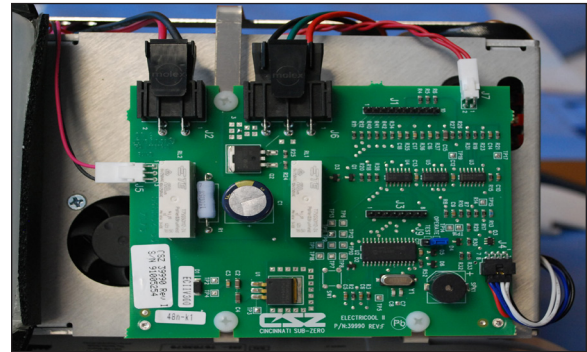

Figure 55 - Step 7 Attach connector to J7
7. Connect the float switch cable to J7 on the control board (Figure 55).